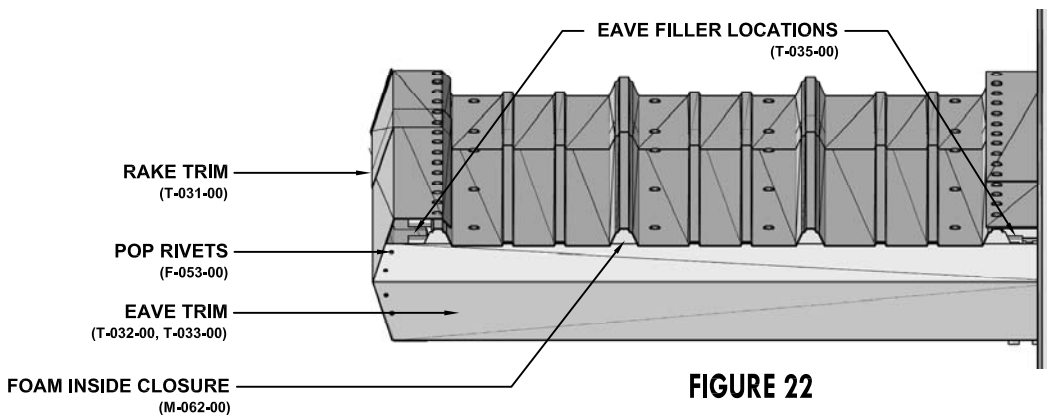

FIGURE 22
8. Cut a piece from the Eave Filler (T-035-00) to fill in the gaps shown in Figure 22. Attach with Pop Rivets or Stitch Screws from below.
9. Attach Peak Plate (T-034-00) over the cut at the center of the Rake Trim using (4) Pop Rivets.